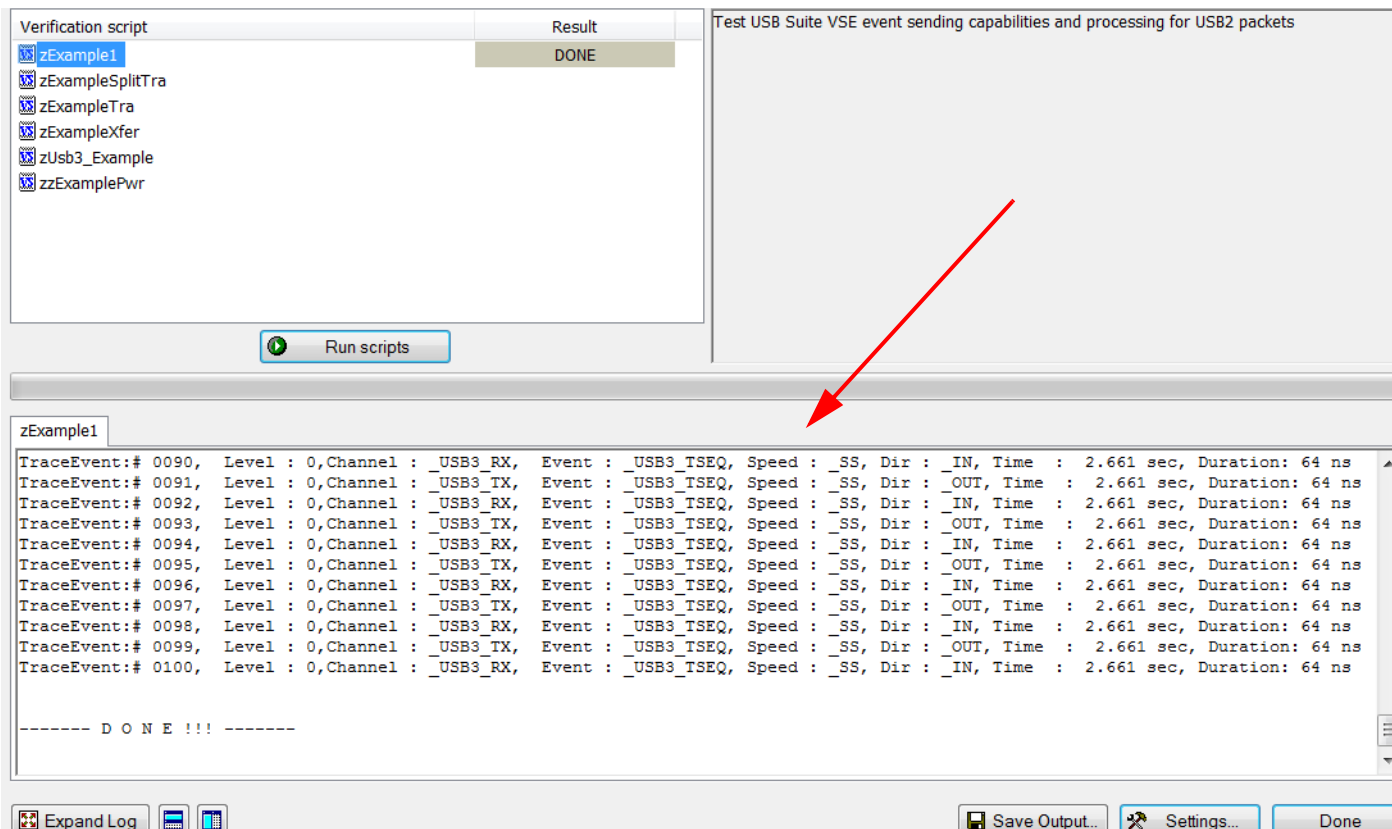

Figure 9.66: Verification Script Results
2. Press the button **Run scripts** after you select scripts to run. VSE starts running the selected verification scripts, shows script report information in the output windows, and presents the results of verifications in the script list (see Figure 9.66 on page 357).